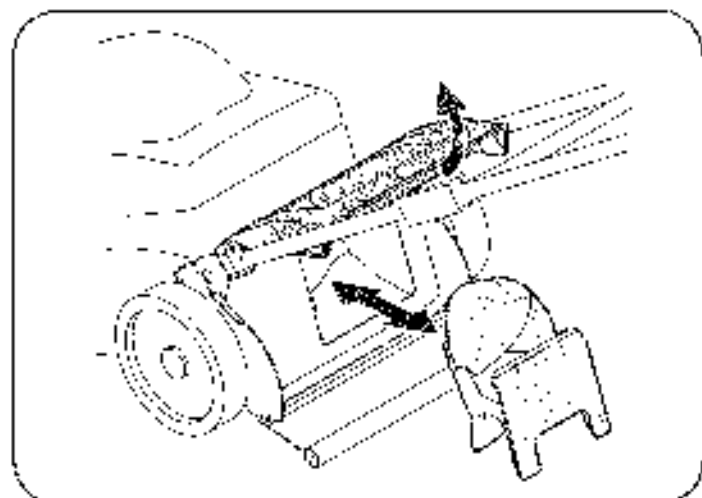

Figure 3
2. Remove mulching baffles. See Figure 3.